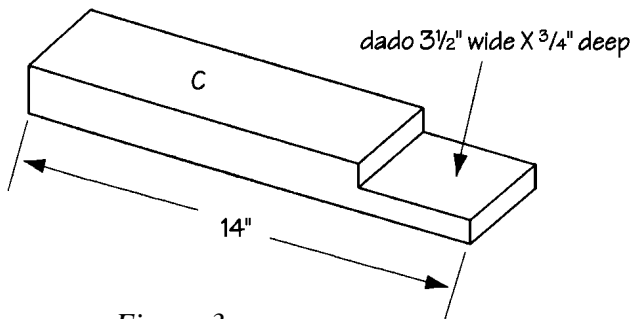

Figure 3
- Cut two front legs (C) from 2 x 4 pine, each measuring 14" long.
- Cut a lap dado on one end of a front leg (C), measuring 3-1/2" wide and 3/4" deep, as shown in *Figure 3*. Repeat the procedure to cut a lap dado on the remaining front leg (C).